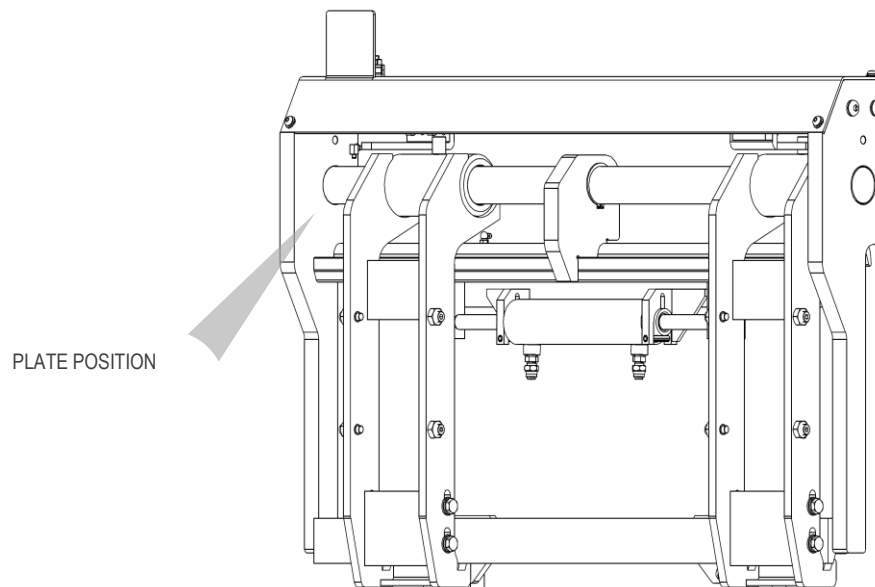

Figure 1
All the A.T.I.B. equipment – FORK POSITIONER TYPE 598 | 599 are identified by means of an adhesive plate (see *Table 1*) located on the equipment (see *Figure 1*), always refer to the serial number.
For this purpose, straps or chains must be used that are suitably sized for the weight of the equipment as indicated on the plate (see *Figure 1* and *Table 1* on page 7).
11. Connect the hydraulic circuit, ensuring that the operating pressure of the lines is greater than or equal to that indicated on the rating plate (see *Figure 1* and *Table 1* on page 7).